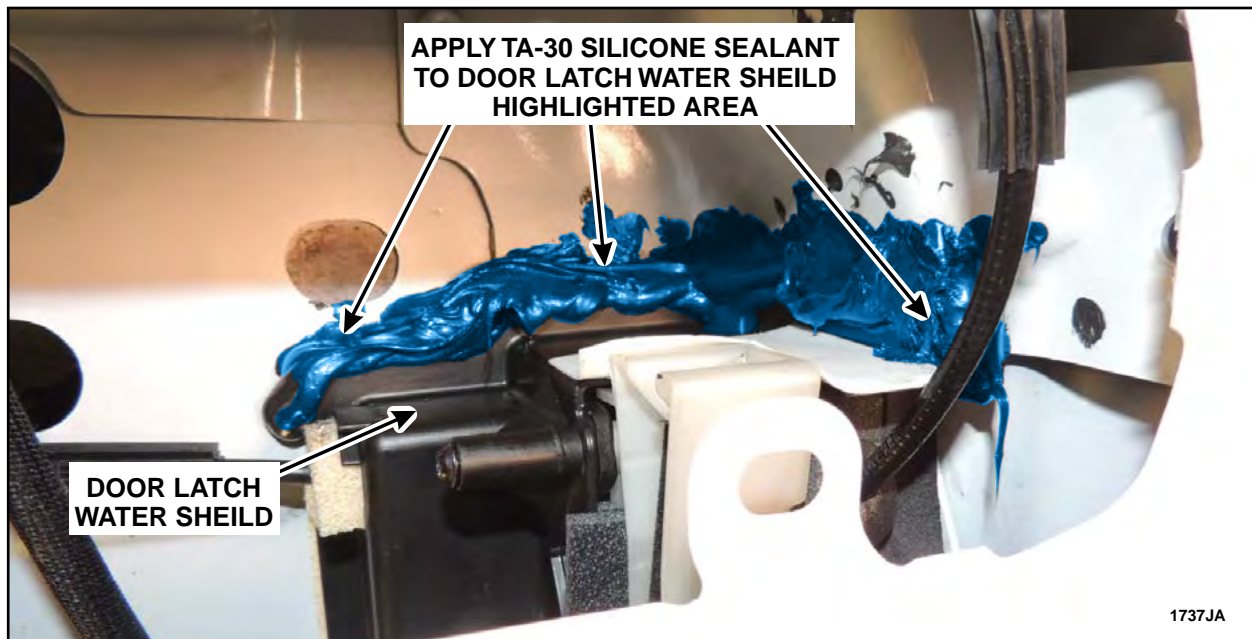

FIGURE 80
6. Apply Motorcraft® TA-30 silicone sealant in and over the mating area of the water shields to the door. Using light finger pressure smooth the bead of silicone. See Figure 80.